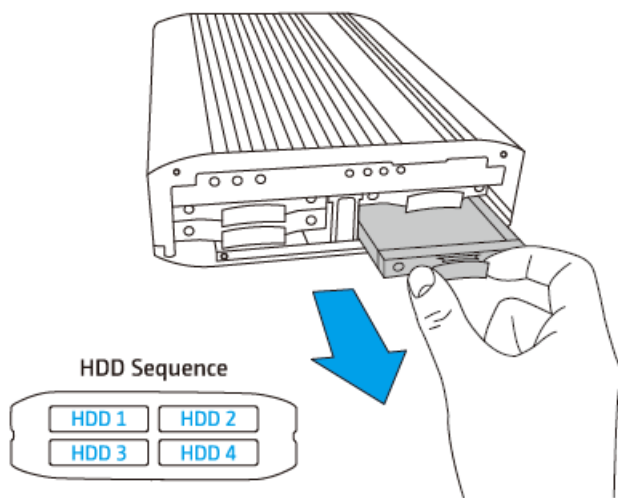

Figure 3-2: HDD Tray Removal
- Step 2:** Remove the hard drive tray (**Figure 3-2**).